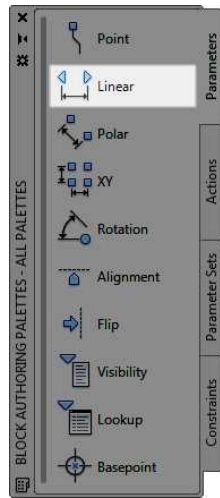

FIGURE 9.42: The Linear parameter in the Block Authoring Palettes panel
2. Make sure Parameters is the active palette in the Block Authoring Palettes panel, and then click the Linear Parameter icon (see Figure 9.42).